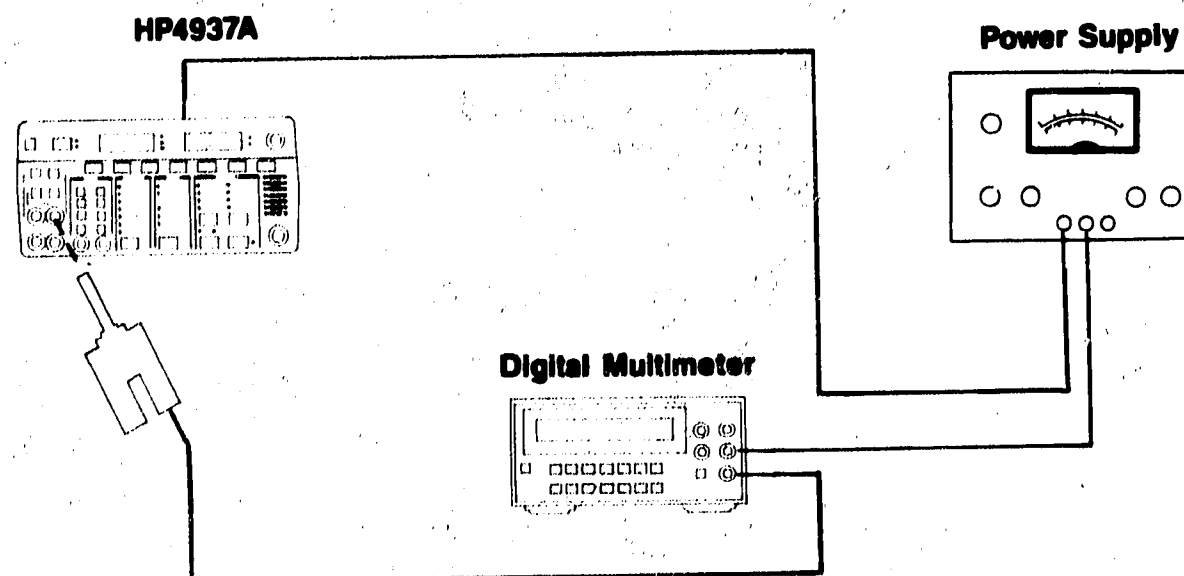

Figure 4-18A. Ground Start
2. Connect the equipment as shown in Figure 4-18A. (The ground connection of the HP 4937A is on the rear panel.)